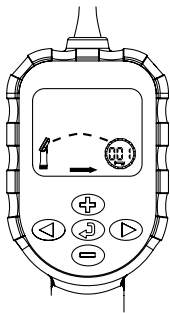

Figure 1
2. Use the **+** and **-** buttons to change the 3-digit identification number. Use the **▶** button to make sure that the WVP is in the transmit mode with the arrow on the display pointing towards the address icon **000** (see figure 1).